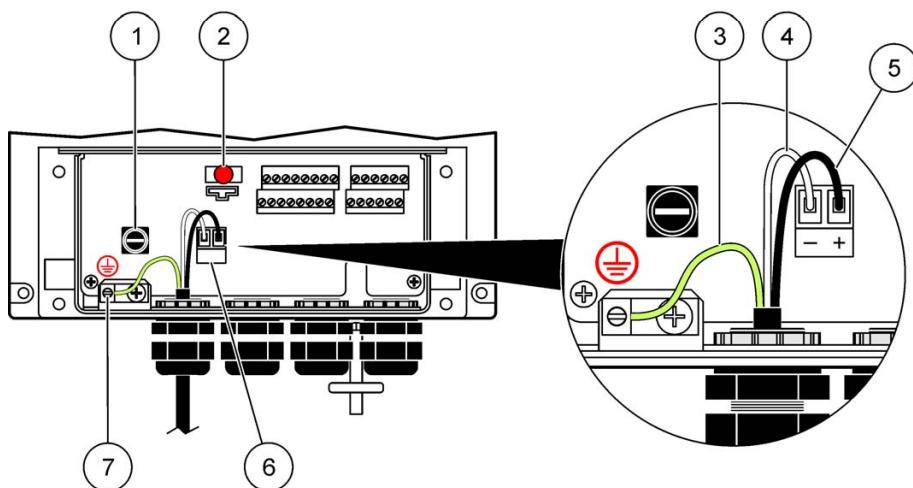
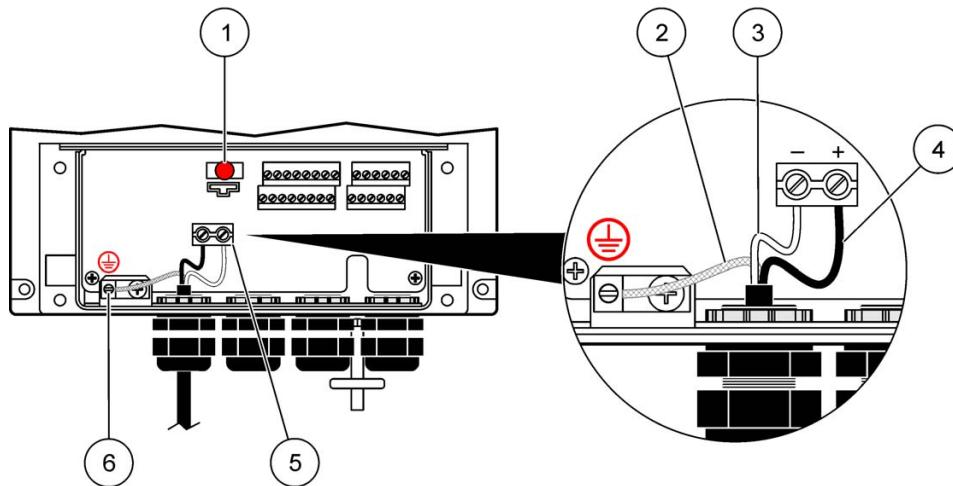

Figure 5 Wiring for AC power
Figure 6 Wiring for DC power
4. Install the ground wire to the protective earth grounding block (Figure 5). Make sure the ground wire is securely connected.
4. Install the ground wire or cable braid to the protective earth grounding block (Figure 6, item 2 and item 6). Make sure the ground wire is securely connected.
3. Make sure that the ground wire is connected to the protective earth grounding block (Figure 5 on page 11 or Figure 6 on page 12).